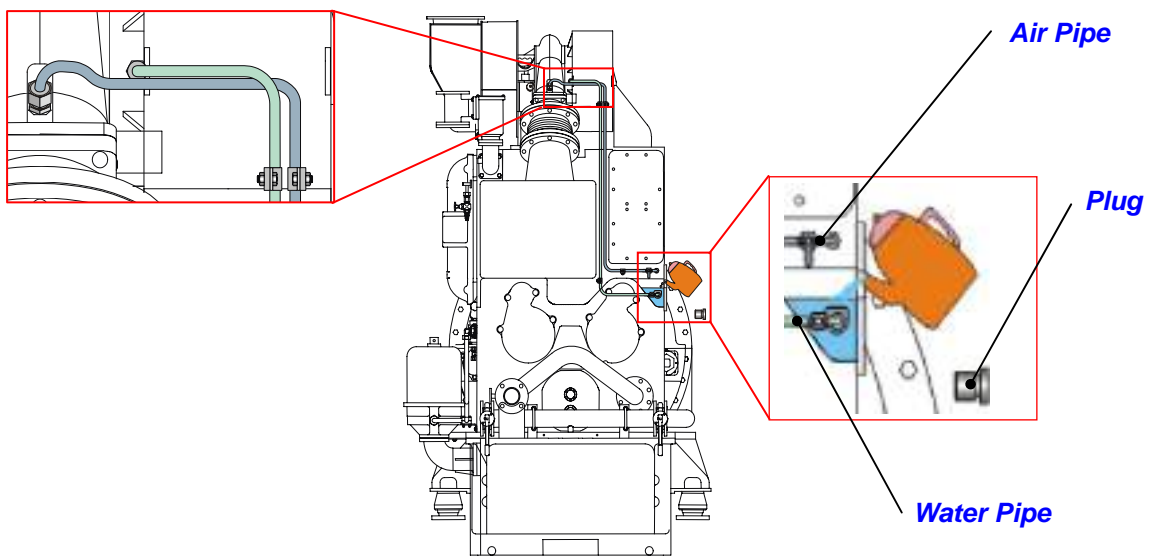

Fig.1 Pipe arrangement for cleaning the compressor side (압축기 세척용 파이프 배치상태)
1. In order to cleaning the compressor wheel, unscrew the plug in the side cover of water container as shown in fig 1.